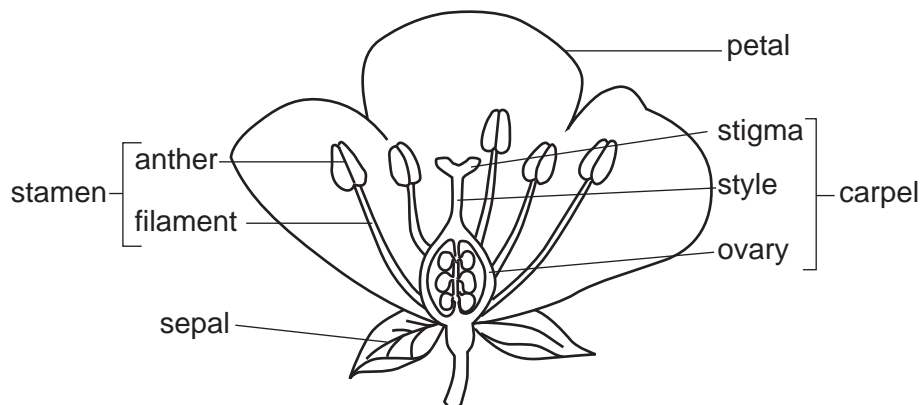
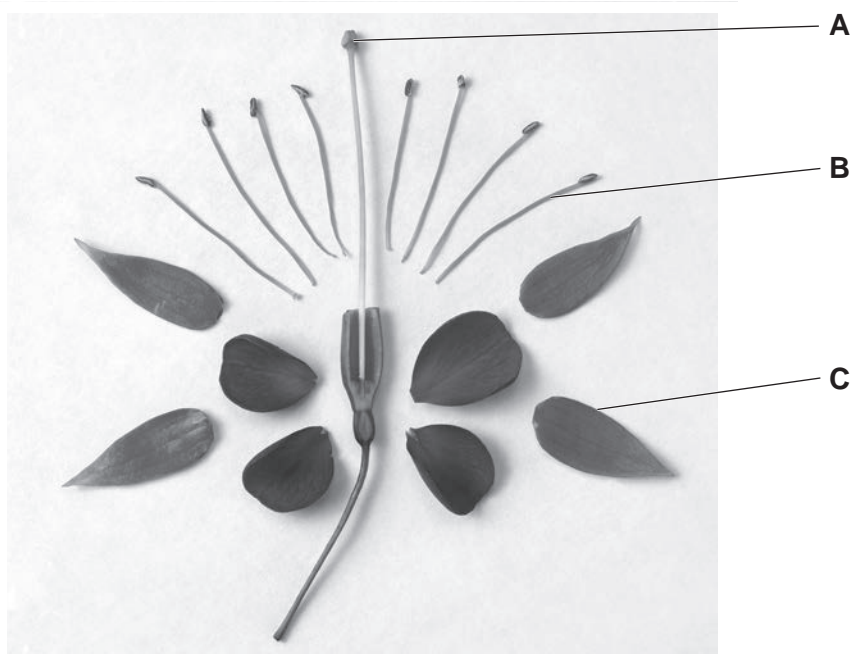

Fig. 2.1
Fig. 2.2
2 (a) Fig. 2.1 is a labelled diagram of the parts of a flower.
Fig. 2.2 is a photograph showing the parts of a flower that have been separated.
Complete Table 2.1 using the information in Fig. 2.1 and Fig. 2.2 by stating the:
- number of each of the flower parts **A**, **B** and **C** visible in Fig. 2.2.